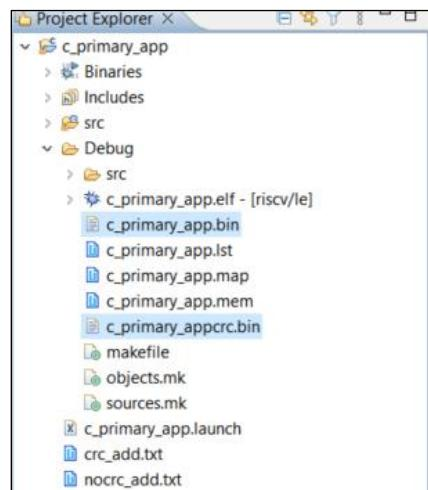

Figure 8.37. FreeRTOS App Binaries Created with CRC and without CRC
39. This creates the debug folder and the following files with **c_primary_app.bin** and **c_primary_appcrc.bin** binaries with CRC and without CRC as shown in Figure 8.37.